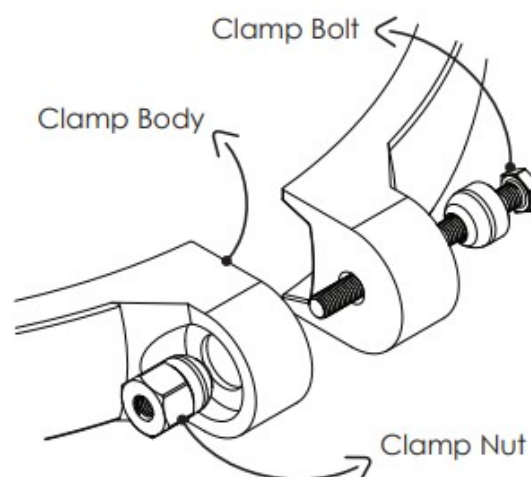

Figure 5
2. Filter Bodies are properly secured with the Filter Body Clamp. Never rely on hand tightening the Clamp Nut to the Clamp Bolt. Using a 3/4" socket on a torque wrench, torque Clamp Nut to Clamp Bolt to 17Nm (150 inch-lbs). (See Fig 5)